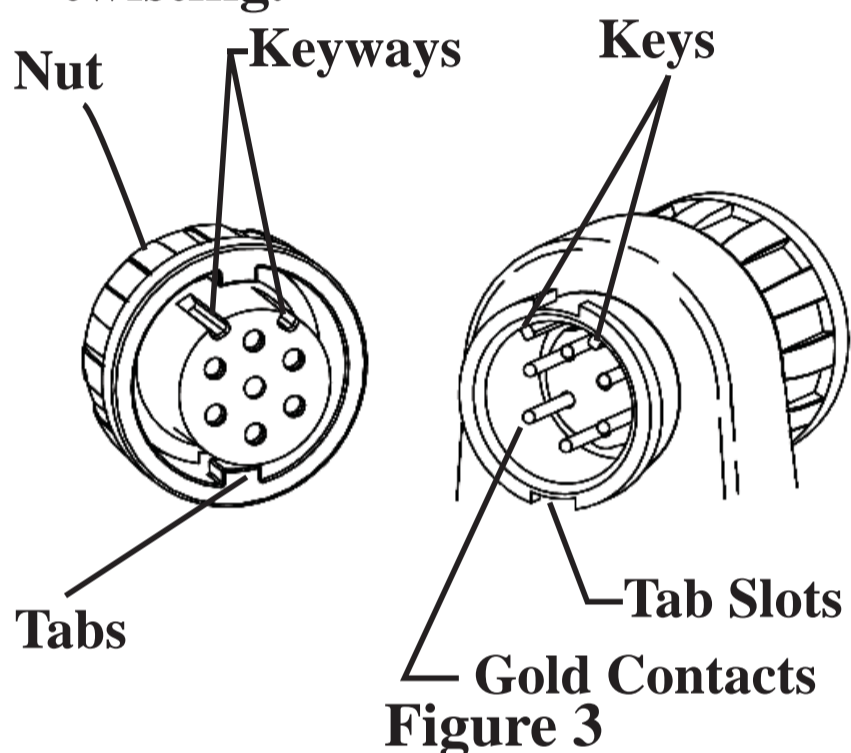

Figure 3
2) Refer to Figure 3. The connectors are **Keyed** which means that they can only be plugged in one way.
to find the Tab Slots on the mating connector. (Figure 3)